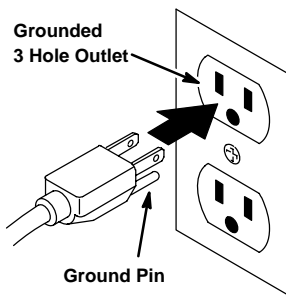

FIG. 8
1. Plug the power cord into a grounded wall outlet (Figure 8).